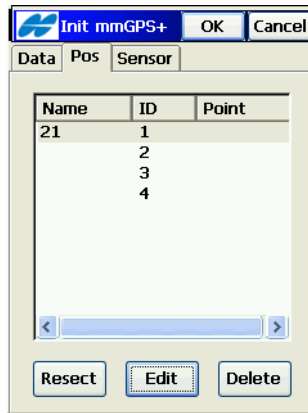

Figure 8-15. init mmGPS -Trans Tab
6. On the (*Trans*) *Pos* tab, select the desired transmitter. Tap **Edit** to enter the transmitter's position (Figure 8-15).